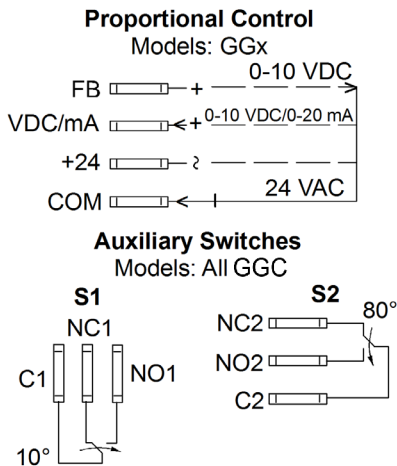

Figure 4: VA9109-GGx-4 Control Wire Diagram
The VA9109-GGx-4 Series Electric Non-Spring Return Valve Actuators require AC 24 V power and a DC 0(2) to 10 V or 0(4) to 20 mA controller input signal. See Figure 4 for proper wiring.